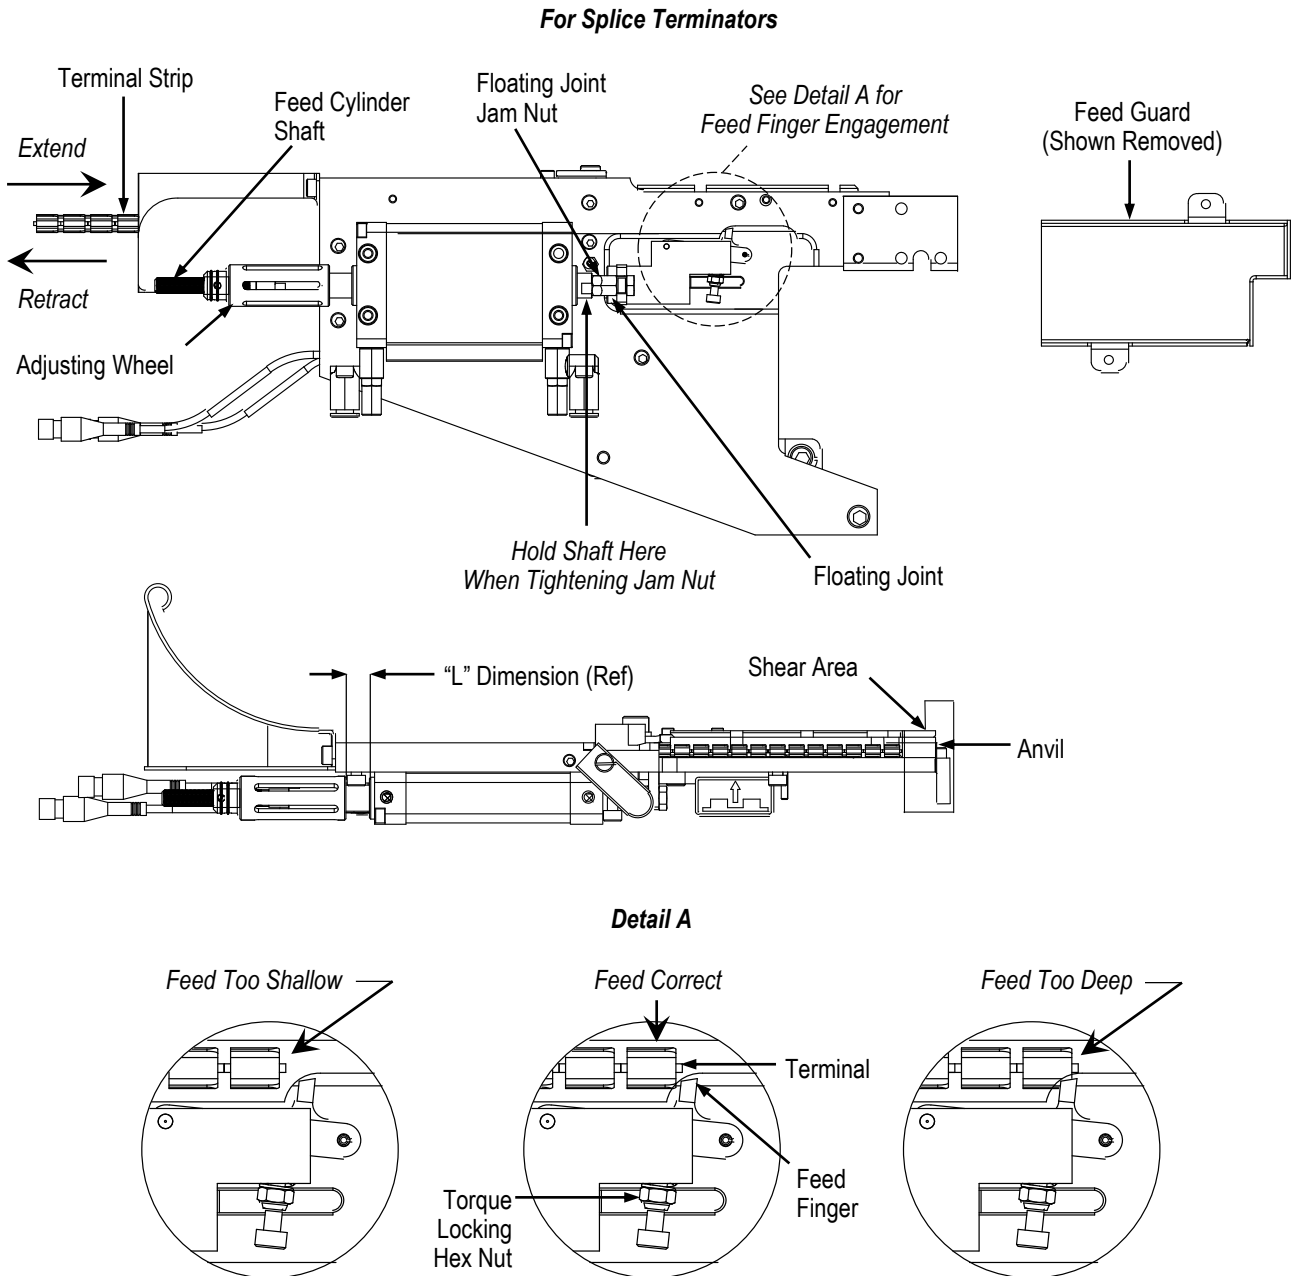
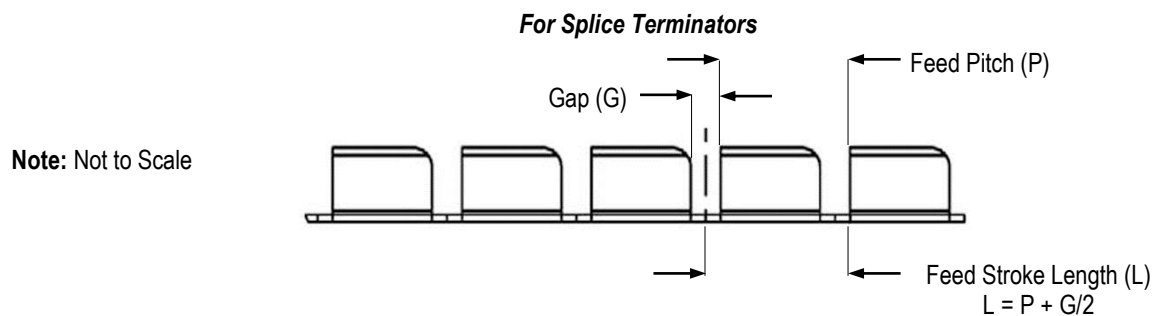

Figure 18
Figure 19
2. Load the terminal strip until it just reaches the feed finger. DO NOT load the terminal strip beyond the feed finger. See Figure 18.
3. Adjust the torque locking hex nut (986965-7) until the feed finger is adjusted. See Figure 18.
The drag must apply sufficient pressure to the terminal strip to prevent pullback of the strip by the feed finger when it is retracted to pick up the next feed point. If necessary, see Figure 18, and adjust as follows:
3. Turn the adjusting wheel (2161481-1) to the appropriate "L" dimension for the terminal being processed. See Figure 18. Refer to drawing 2161490 for the "L" dimension for AMPLIVAR terminals. If data is not available, set the "L" to the terminal pitch plus half of the gap between terminals. See Figure 19.